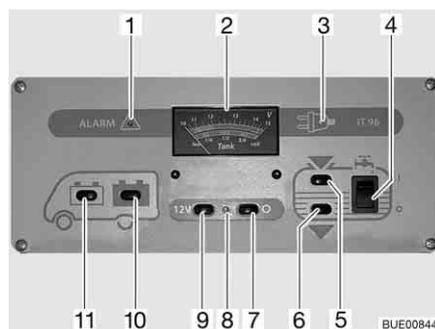

Fig. 171 Panel IT 96-2
The 12 V main switch (Fig. 171,7 and 9) switches the panel and the 12 V power supply to the living area on and off.
**Switching on:** ■ Press switch (Fig. 171,9) "12 V": The 12 V living area power supply is switched on. The indicator lamp (Fig. 171,8) lights up green.
**Switching off:** ■ Press switch (Fig. 171,7) "O": The 12 V living area power supply is switched off. The indicator lamp (Fig. 171,8) goes out.
With the V/tank gauge (Fig. 171,2), note the top scale. The gauge automatically lights up as soon as a switch is pressed.
- Press switch (Fig. 171,11) : The battery voltage of the starter battery is displayed.
- Press switch (Fig. 171,10) : The battery voltage of the living area battery is displayed.
The V/tank gauge is for the indication of the quantity of water or waste water. With the V/tank gauge (Fig. 171,2), use the bottom scale. The gauge automatically lights up as soon as a switch is pressed.
- Press switch (Fig. 171,5) : The volume of water is displayed.
- Press switch (Fig. 171,6) : The volume of waste water is displayed.
*Switching on:* ■ Press the upper part of the rocker switch (Fig. 171,4) "I": The water supply is ON.
*Switching off:* ■ Press the lower part of the rocker switch (Fig. 171,4) "O": The water supply is OFF.
The red "ALARM" warning light (Fig. 171,1) flashes as soon as the voltage of the living area battery falls below 11 V (measured under operation) and there is a risk of a total discharge.
The 12 V indicator lamp (Fig. 171,8) illuminates whenever the 12 V main switch (Fig. 171,9) is switched on.
The yellow 230 V indicator lamp (Fig. 171,3) illuminates whenever line voltage is available at the transformer/rectifier input.